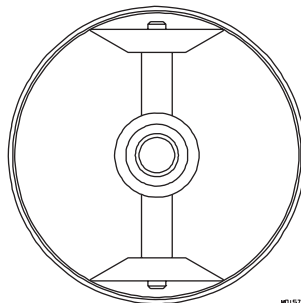

Figure 8-3 Scraper Blade Installation
3. Place the scraper blades on the beater shaft, making sure the blades are installed properly (see figure 8-3).